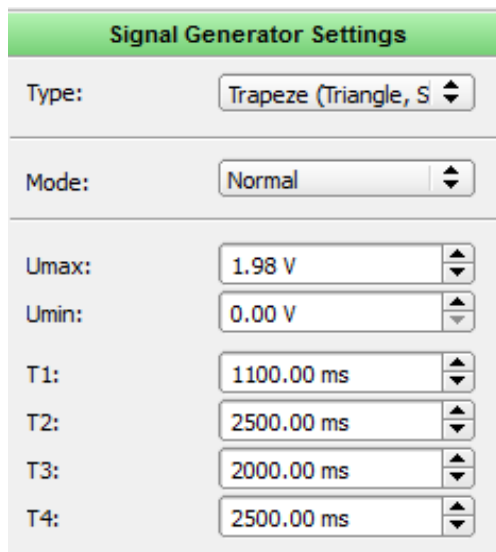

Figure 16. Signal Generator Settings
- Pin 4 is configured as Signal generator as shown in figure 16.